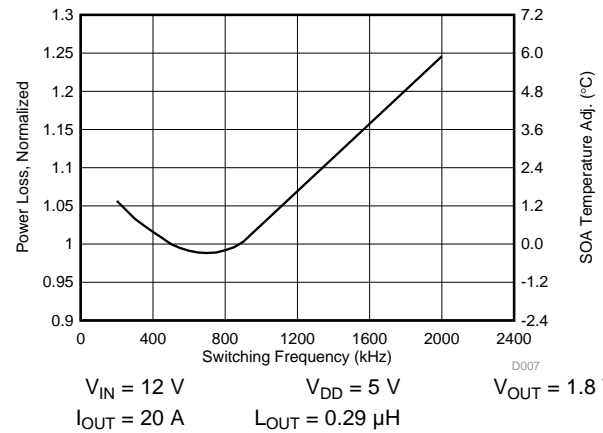

Figure 9. Normalized Power Loss vs Frequency
- Normalized Power Loss for switching frequency ≈ 0.99 (Figure 9)
- SOA adjustment for switching frequency $\approx -0.2^\circ\text{C}$ (Figure 9)